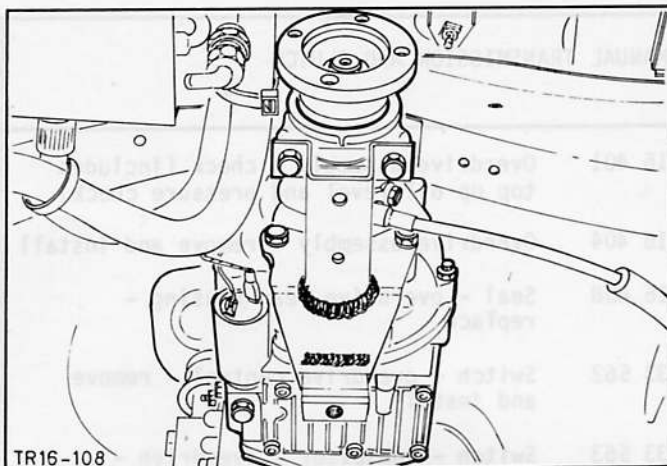

Fig.9. Gearbox crossmember dismantled.
4. Remove gearbox crossmember (4 bolts). Support gearbox with jack, disconnect crossmember from overdrive and body, Fig.9, thereby disconnecting one side complete with holder.